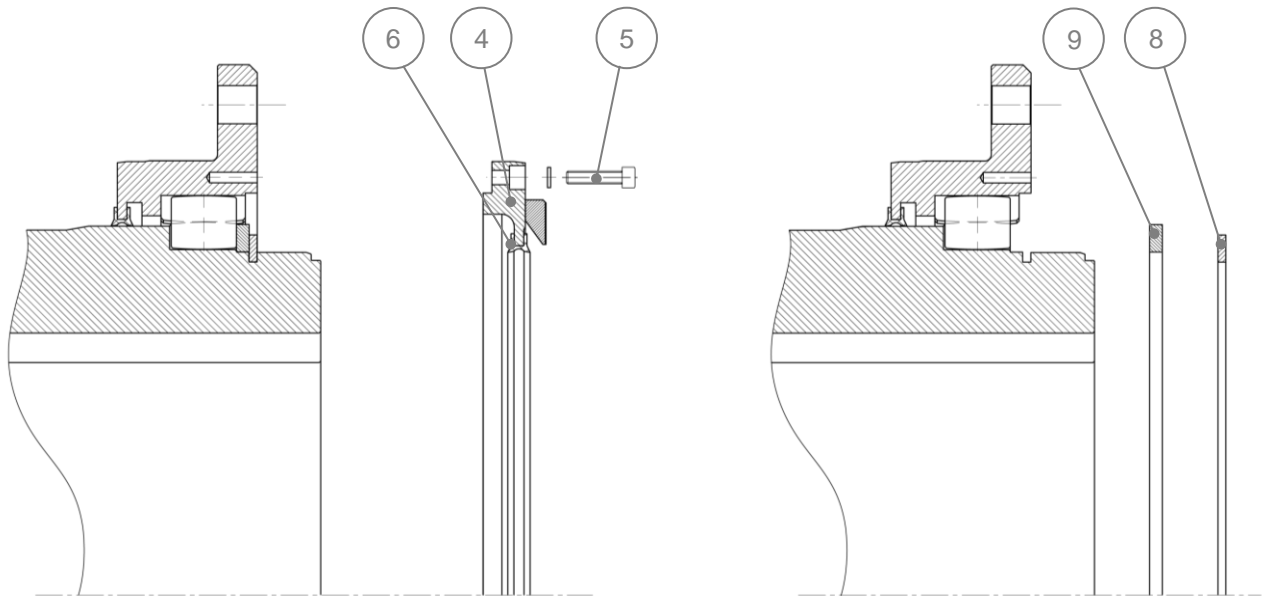

Fig. 4: Disassembly of the coupling
- During vertical disassembly and assembly, note that the housing (item 2) may fall after loosening the cover screws (item 5). Use suitable tools to hold the housing in position.
- Loosen the cover screws (item 5) and remove the cover (item 4) with the seal (item 6), Fig. 4 left.
- Remove the spiral circlip (item 8) and then the thrust ring (item 9), Fig. 4 right.
- Remove the barrel rollers (item 3) or – in case of vertical disassembly – let the housing (item 2) slide down carefully and then remove the barrel rollers.